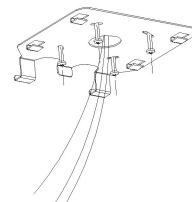

Figure 10
- Attach the mounting plate to the mounting surface using appropriate fasteners (see Figure 10).